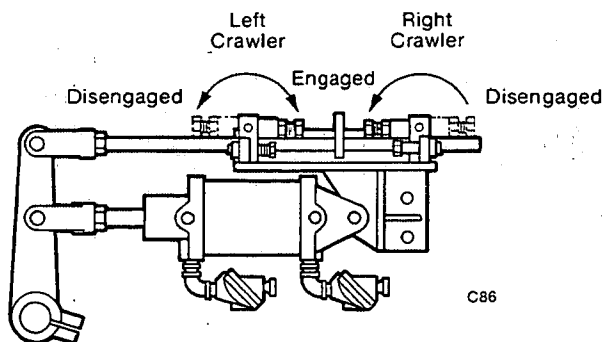

Figure 9 Steering Half Locks
75. Half lock controls (past production) (Figure 9) —